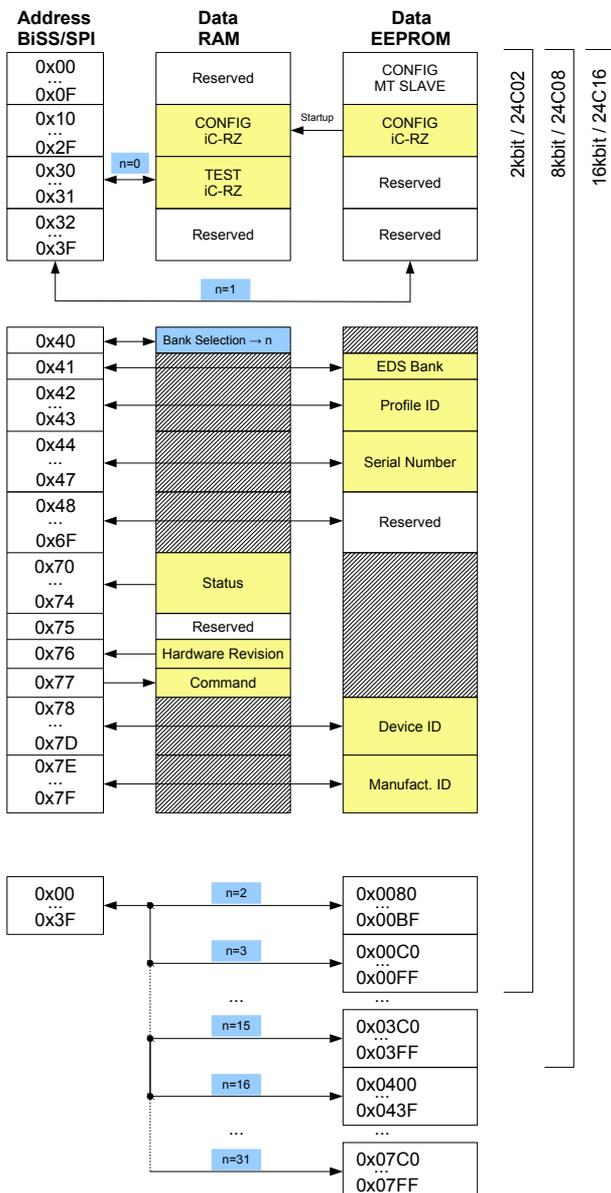

Figure 37: EEPROM register map (I2CDEV = 0x00)
The different memory banks can be addressed with BSEL. With I2CDEV set to 0x0, BSEL is used to address the EEPROM memory range from 0x000 to 0x7FF (11-bit address range) as well as the internal RAM content. Bank 0 selects the internal RAM content with the configuration parameters (refer to chapter REGISTER MAP (SC)). Starting with bank 1 the EEPROM is addressed. The memory map in Figure 37 summarizes the accessible registers and the EEPROM areas using the parameter BSEL.